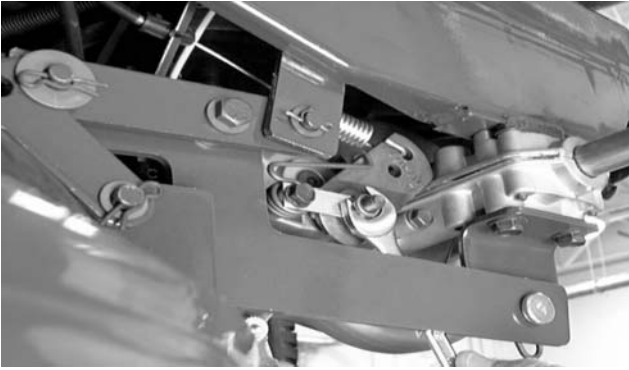

Figure 8-9.
8. Locate the locking hex nut that secures the brake actuation arm to the brake assembly on the transmission. See Figure 8-9.
9. Loosen (**DO NOT REMOVE**) the locking hex nut using a 1/2" wrench. See Figure 8-9.